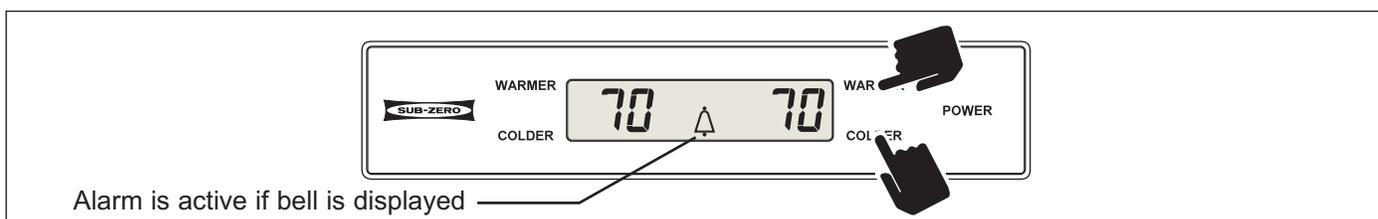

Figure 3-7A. Switching Door Ajar Alarm ON or OFF - Press WARMER and COLDER Keys
All UC Units after serial #3603000 are equipped with a door ajar alarm feature. When activated, the alarm will alert a customer if a door is stuck open or left open longer than one (1) Minute. To enable the drawer ajar alarm feature the unit must be energized for at least sixty (60) seconds, then press the WARMER and COLDER keys simultaneously and release them. The bell icon will appear on the LCD indicating that the alarm feature is active. (See Figure 3-7A) Now, if the door is open longer than sixty (60) seconds, the bell icon will blink and the audible alarm will beep. To disable the drawer ajar alarm, simply press the WARMER and COLDER keys simultaneously and the bell icon on the LCD will disappear, indicating the alarm feature is OFF.